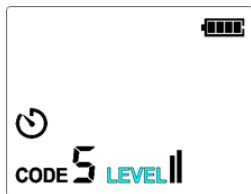

Figure 9.1.2b LEVEL Increasing/Decreasing
3. When the LEVEL symbol flashes, short press the Up/Down button to set the level to III, II or I. The default level is III, as shown in Figure 9.1.2b.